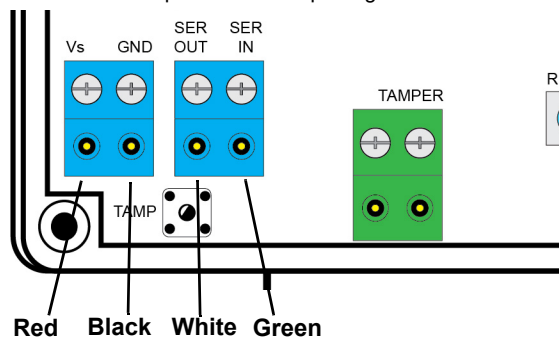

Figure 4 ACC653 serial data and power connections
2. Connect the ACC653 serial and power cable to the network coordinator's serial data and power terminal per Figure 4.